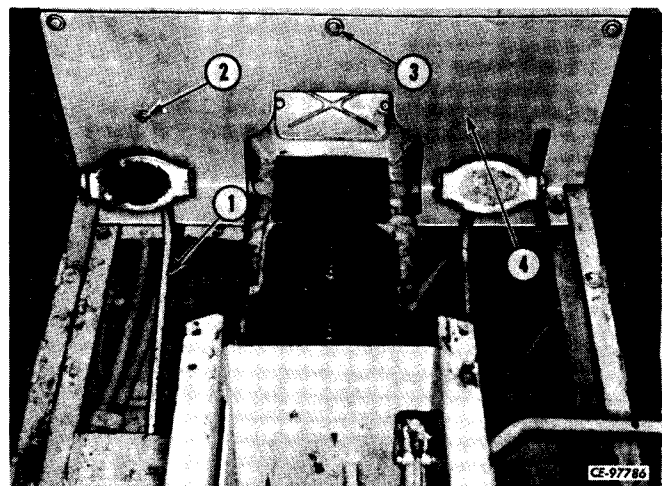

Figure 4-3
Remove cap screws (2, 3, Fig. 4-3), disconnecting hydraulic hose bracket and firewall panel.
From inside operator's compartment, press down on clutch pedal (1, Fig. 4-3) and position firewall panel (4). Install and tighten cap screws and washers (3). Position hydraulic hose bracket to rear of firewall and install and tighten cap screw, lock washers and nut (2).